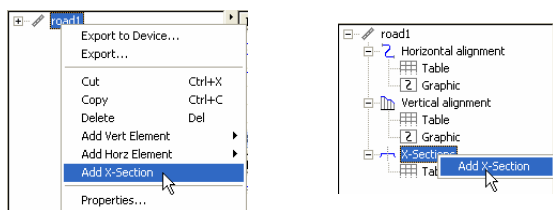

Figure 9-71. Adding X-Section Using Left Panel of the Road tab
- In the left panel, right-click the road or the x-section and click **Add X-Section** (Figure 9-71).